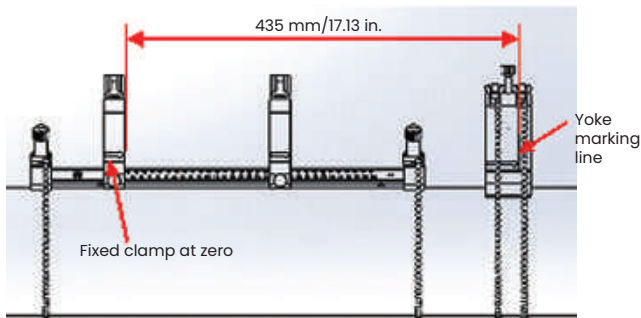

Figure 39: Yoke set at 435 mm/17.13 in.
6. Place the fixed clamp in the clamping fixture at zero on the scale. As an example, if the required transducer spacing is 435 mm/17.13 in., measure the required 435 mm/17.13 in. distance from the edge of the fixed clamp to the marked line on the yoke (see *Figure 39* below).